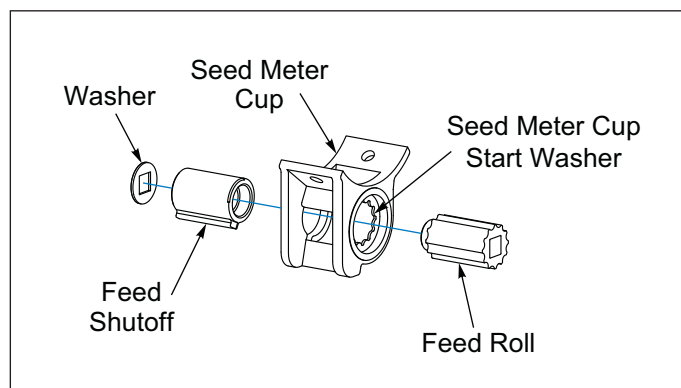

Figure 5-8: Small Seed Meter
3. Individual Seed Meter Cups can be adjusted as required. Adjustments can be made by loosening the 1/4-20 x 5/8 Machine Screws that mount the Seed Meter Cup to the Seed Box. Adjust the affected Seed Meter Cup so the Feed Shutoff is against the Seed Meter Cup Star Washer in the Seed Meter Cup (closed). Be sure the Feed Roll stays engaged in the Seed Meter Cup Star Washer. **See Figure 5-8.**